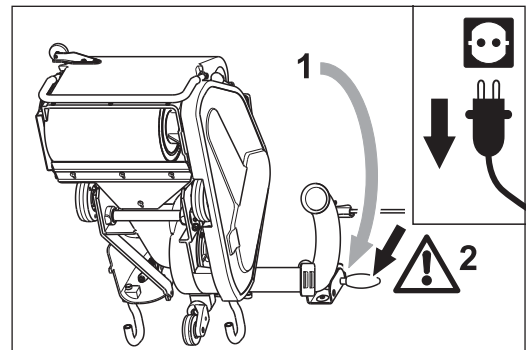

Fig. 57 Tilt the machine backwards (1). **Ensure that the machine is standing securely (2)!**
- 4 Tilt the machine back over the safety guards (Fig. 57, 1). **Ensure that the machine is standing securely (Fig. 57, 2)!**